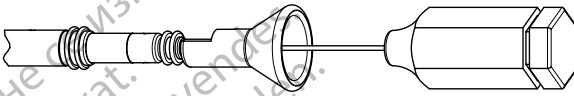

Figure 2. Insert the stylet
3. Insert the chosen stylet through the terminal pin or the stylet guide if using one (Figure 2 Insert the stylet on page 13).